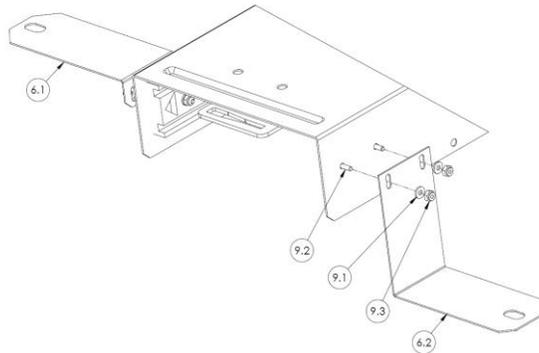

Figure 2
- Remove the two forward #9.2 Screws from the interior slides and enclosure. Place them in the Key Bag with the other hardware. (Figure 2)